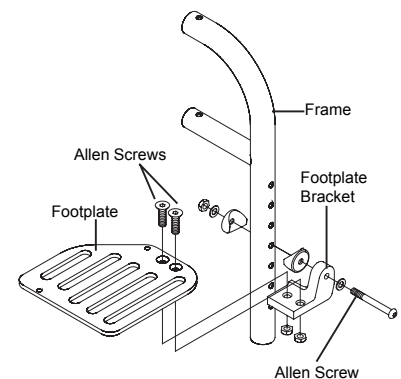

Figure 20
1. Remove the Allen Screw that secures the footplate bracket to the frame. See Figures 20 or 21. Make sure to note the order in which you remove the various washers and nuts when removing the Allen Screw.